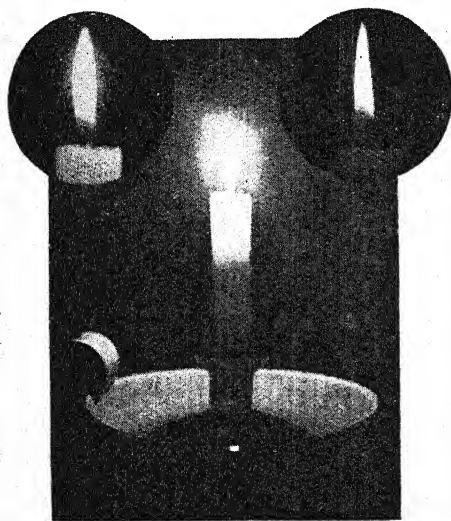

Fig. 10.
(1) when the contrast ratio approaches or exceeds the latitude of the film. Fig. 10 is an instance. It is a photograph of a candle and candle-stick without any other illumination than that provided by the candle flame. The measured brightnesses of the various points were: flame 1,500; handle of candle-stick 0.8; base of candle 0.04; and